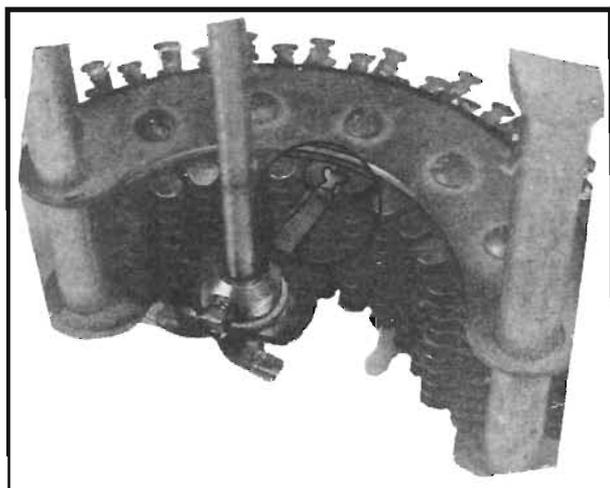
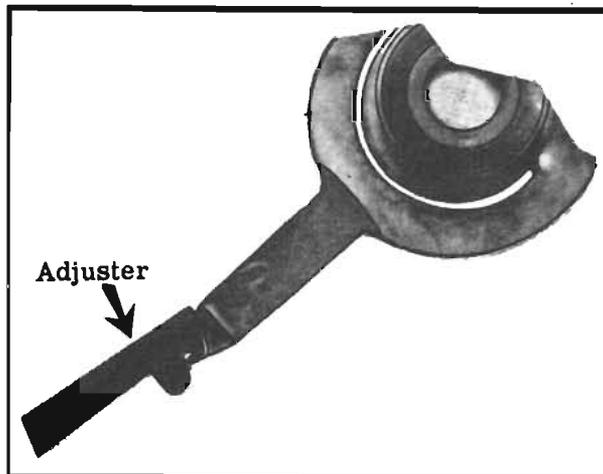

Figure 15. A Wiper Spring Assembly which is Bridging Between Bank Contacts 5 and 6, Level O.
Figure 16. A Wiper Tip Ear being bent by an Adjuster.
3.27 Check wipers for bridging between adjacent contacts (Fig. 15). To check, step shaft vertically until the wiper is aligned with any one bank level. Rotate wipers across bank level. With the completion of each rotary step, observe that the wiper is not resting on more than one bank contact. Should the wipers bridge, recheck rotary centering. Also check for bent wiper tip ears. To adjust wiper tip ears, place the adjuster as shown in Fig. 16 and bend as required.